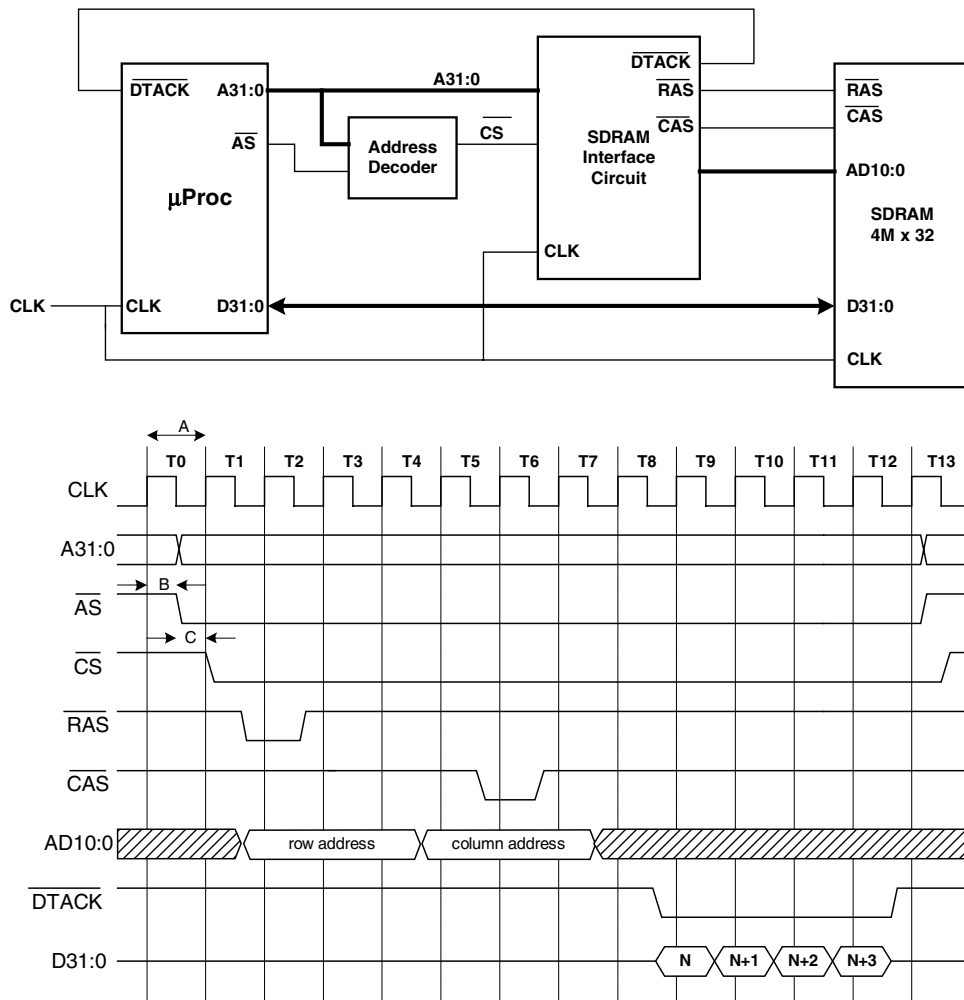

Figure 6
7. Figure 6 shows a microprocessor connected to a 4M x 32 bit SDRAM module through an address decoder and an interface circuit. The timing of the microprocessor and the SDRAM for reading a burst of four memory words is shown in Figure 6. The address bus $A_{31:0}$ becomes valid and the address strobe signal \overline{AS} is asserted at time B after the rising edge of the clock signal CLK during the clock cycle T_0 . The period of the clock is A. The address decoder circuit produces a chip select signal \overline{CS} , which is asserted low for addresses in the range \$00000000 to \$003FFFFFF provided that \overline{AS} is also low at time C after \overline{AS} is asserted. The row address strobe signal \overline{RAS} and the column address strobe signal \overline{CAS} are asserted by the SDRAM interface circuit for one clock cycle on the falling edge of the clock during T_1 and T_5 respectively.